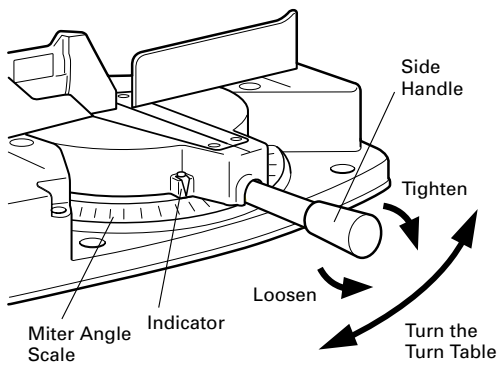

Fig. 18
- (1) Loosen the side handle.
- (2) Adjust the table until the indicator aligns with the desired setting on the miter angle scale as shown in Fig. 18.
- (3) Re-tighten the side handle to secure the table in the desired position.